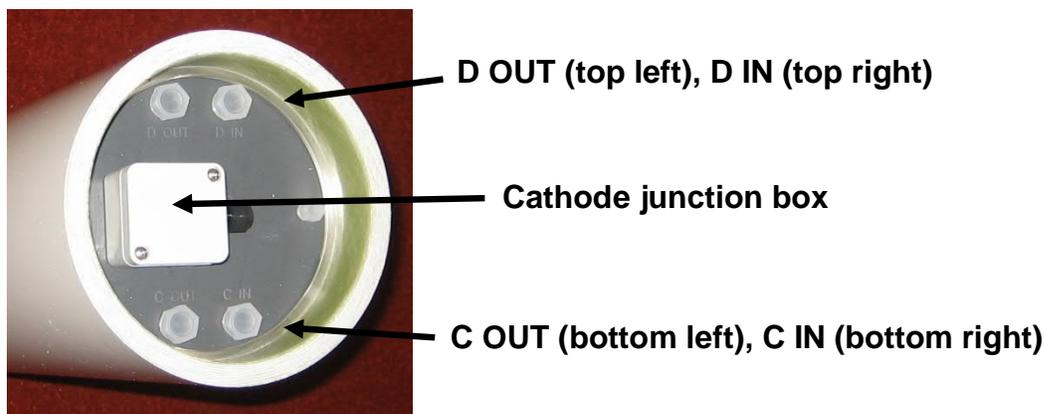

Figure 3-1: MX plumbing connections – cathode end
- Figure 3-1 and the drawing in Appendix B show the location of the module plumbing connections. The product and reject ports in the endblock are all 3/8" BSP tapered female. MX modules are shipped with male plugs installed in the plumbing ports.